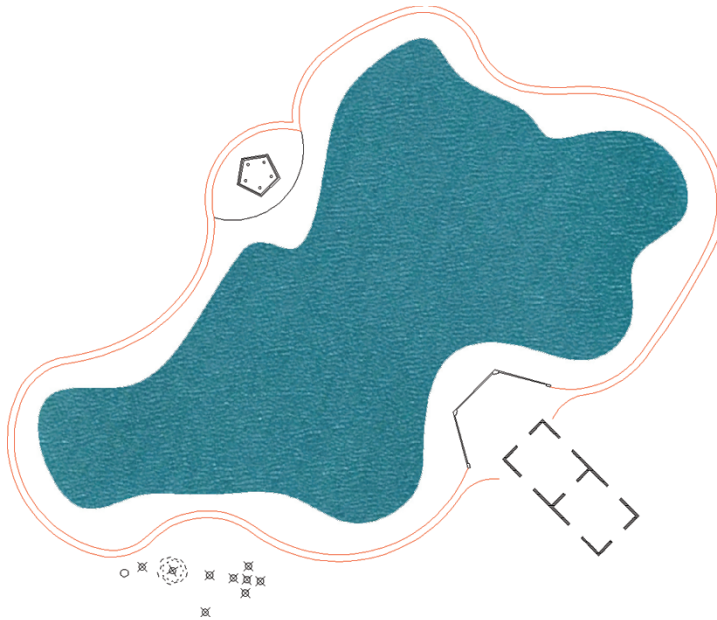

FIGURE 5.8 The curving path around the lake joined into two objects
18. Press the spacebar to repeat the JOIN command. Select the three objects along the inner edge of the path, which include two polylines and the arc above the pentagon. Press Enter, and multiple segments are joined into one polyline (see Figure 5.8).